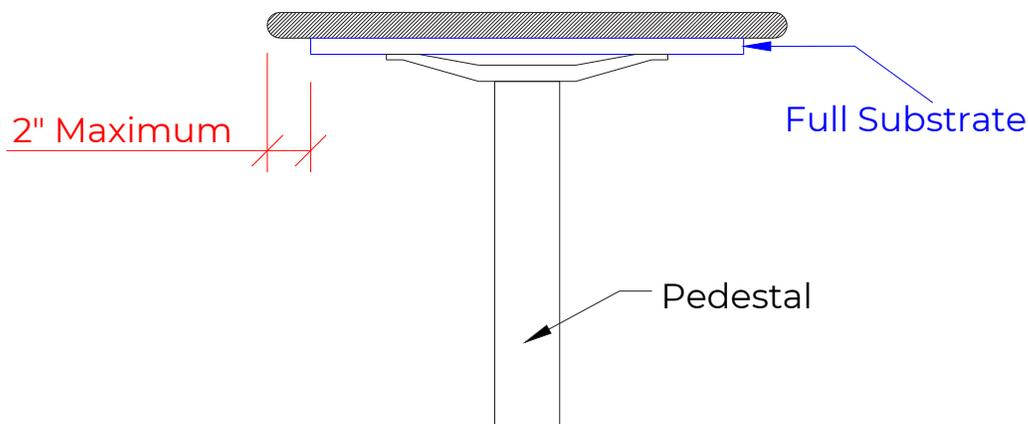

FIGURE 22
- b. Substrate must extend to within 2" from the perimeter of the tabletop. See Figure 22.